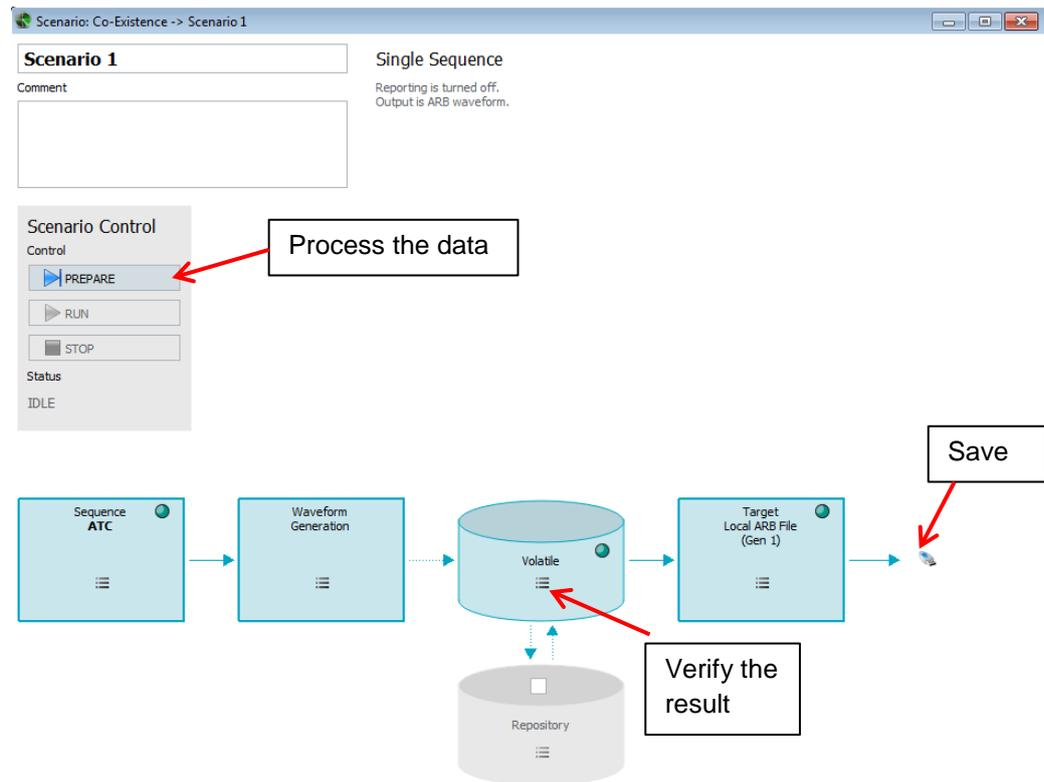

Figure 30: Scenario
- Select the Sequence and process the data by pressing "Calculate + Upload", Figure 30.